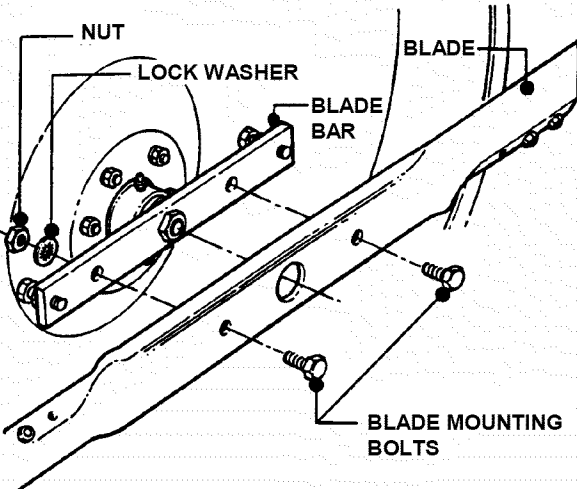

FIGURE 4.26
5. Remove blade mounting bolts, nuts and washers. See Figure 4.26.